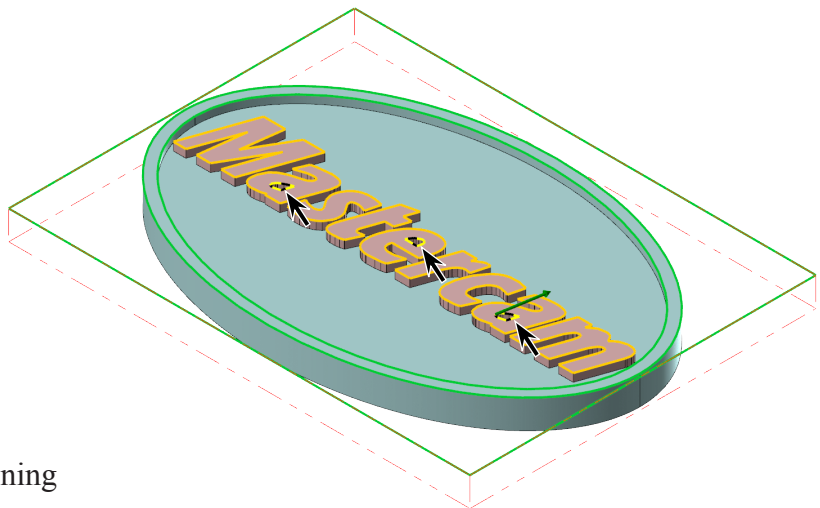

Fig. 65
Step 7. Click to chain **inner geometry of both a's and e letters**, Fig. 65.